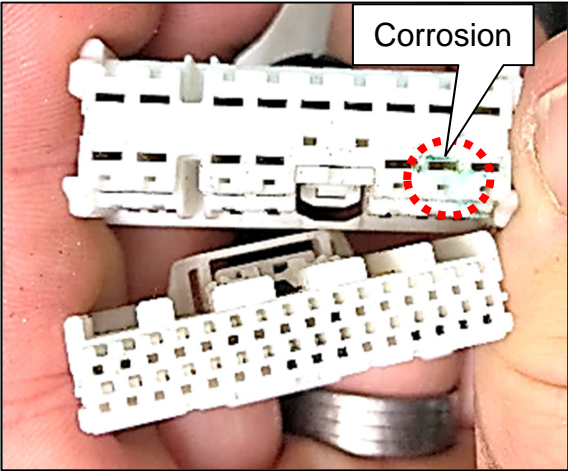
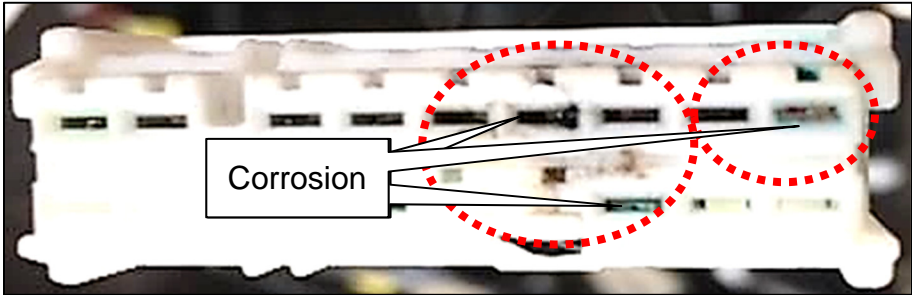

Figure 9
Figure 13
10. Inspect the M74 and B42 wire harness connectors for any signs of corrosion (Figure 9 - Figure 13).